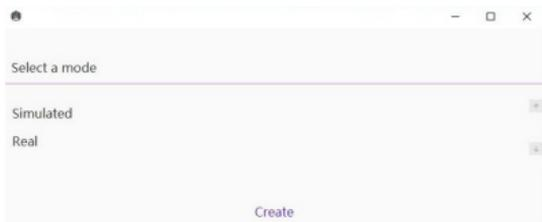

Figure 1 Mode selection interface
- 1) Double-click the icon of MGISP-960 on the desktop. The mode selection interface is displayed, as shown in following figure 1. Select **【Real】** and click **【Create】**.